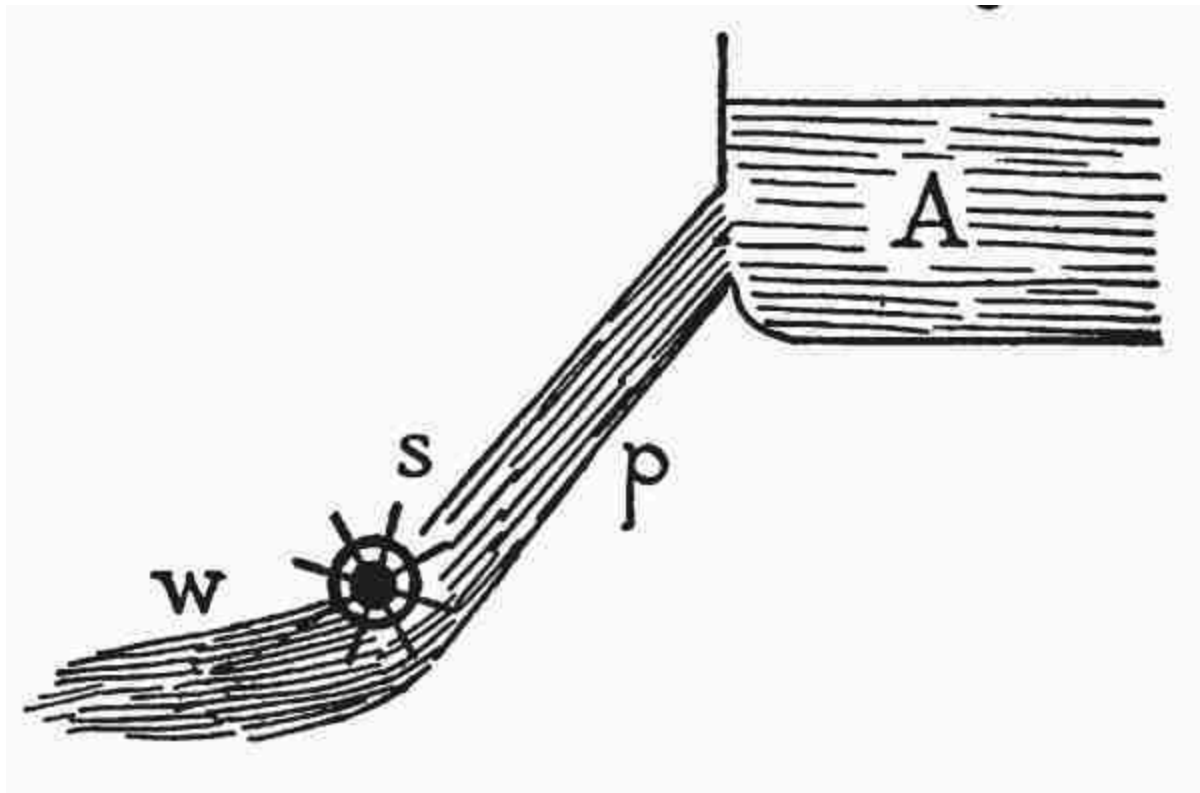

Fig. 17
When we were estimating the energy required to climb the stairs of an apartment house, we needed to take into account two factors, (1) our weight and (2) the time which we took in climbing them. The amount of coal burned, steam generated, electricity produced, to run our elevator depends upon two factors, (1) its weight and (2) its speed. That idea is fundamental. Let us get at it in still another way. Suppose we have a mill pond, (Fig. 17, A). We construct a penstock *p* and install a water-wheel, *S*, to operate a mill. Our business increases and we install more machinery in our mill and must have more power to run it. We have two ways of getting it, (1) we may lengthen our wheel and enlarge our penstock so that a greater weight of water will fall upon the wheel, or (2) we may lengthen our penstock and move the wheel farther down so that the water will fall upon the wheel with greater velocity. It is just so with the electric current. Like water it is driven on in its course by pressure. The unit for electric pressure is called a volt. If we wish to drive the wattmeter or any other electric motor twice as fast as now, we may choose whether we shall do so by doubling the volts of pressure or by doubling the amperes of quantity.